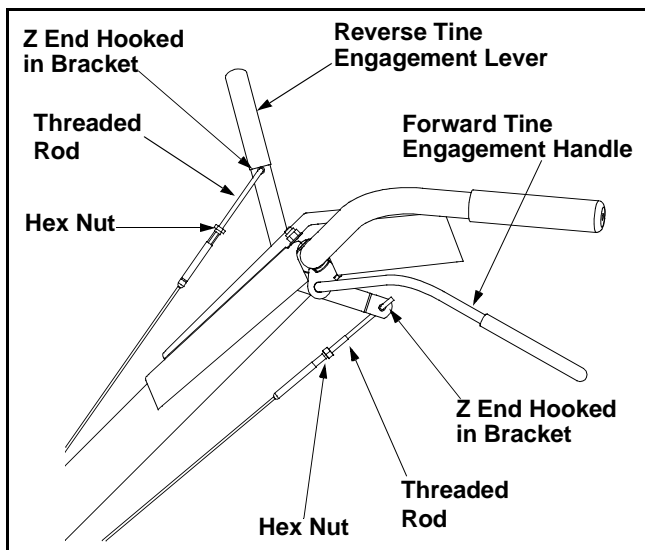

Figure 3
- Loosen the hex nut on the threaded rod near the end of the cable and move it up the rod as far as it will go. See Figure 3.
- Thread the rod back into the cable until the cable is straight. Do not tighten it enough to put any tension on the spring. See Figure 3.
The reverse clutch cable is attached to the front of the tiller. Attach the end of the reverse cable to the reverse tine engagement handle above the handle assembly in the same manner as the forward cable. See Figure 3.